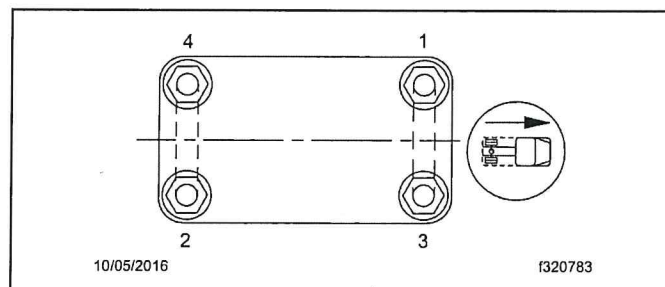

Fig. 3, Tightening Pattern for U-Bolt High Nuts
2. Check the U-bolt torque. See Table 6 for U-bolt torque specifications. Tighten in a diagonal pattern as shown in Fig. 3 . Set a click-type torque wrench to the mid-point torque value for the fastener being checked. Turn the wrench in a clockwise motion (looking up) until the torque wrench clicks, then release pressure on the torque wrench, and turn the wrench again until it clicks. If the nut turns on the second application, the bolt is stretching and must be replaced. See **Group 32** of the *New Cascadia™ Workshop Manual* for bolt replacement procedures.